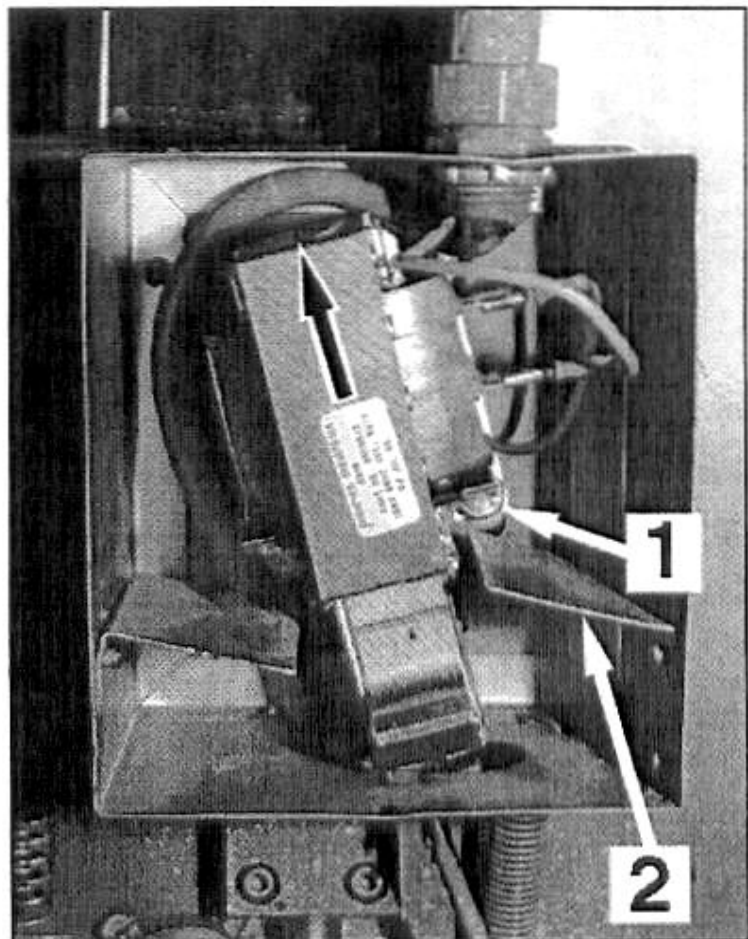

Figure 1
First, remove the old solenoid. Disconnect the mechanical linkage, connected to the solenoid. Disconnect the two wires that power the solenoid. Remove the four bolts and nuts that hold the solenoid to the assembly. Figure 1 item 1 shows one of the four bolts that mounts the four corners of the solenoid to the assembly.
the four solenoid mounting holes inside the box. Elongate the mounting holes one quarter of an inch in the direction of the black arrow in figure 1.
After the holes are elongated, install the new solenoid as close to the top of the box as possible. Connect the two wires that power the solenoid and connect the mechanical linkage. Ensure that the two baffle plates, figure 1 item 2, do not interfere with the mechanical action of the solenoid.